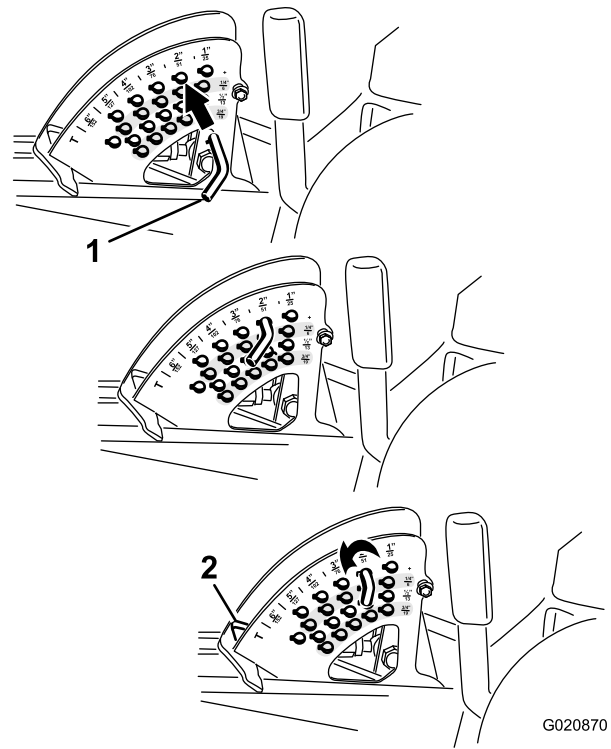

Figure 43
2. To adjust the height-of-cut, rotate the stop pin until the roll pin in it lines up with the slots in the holes in the height-of-cut bracket and remove it (Figure 43).
3. Select a hole in the height-of-cut bracket corresponding to your desired height-of-cut, insert the pin, and rotate it down to lock it in place (Figure 43).
Note: There are 4 rows of hole positions (Figure 43). The top row gives you the height-of-cut listed above the pin. The second row down gives you the height listed plus 6 mm (1/4 inch). The third row down gives you the height listed plus 12 mm (1/2 inch). The bottom row gives you the height listed plus 18 mm (3/4 inch). For the 15.8 cm (6 inch) position, there is only 1 hole, located in the second row. This does not add 6 mm (1/4 inch) to the 15.8 cm (6 inch) position.